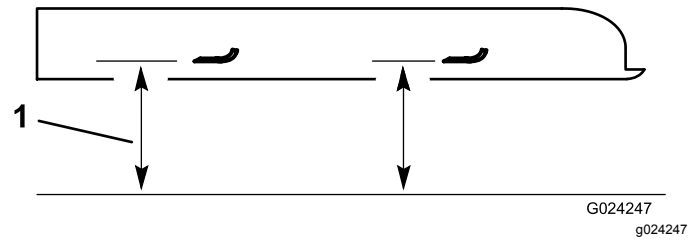

Figure 50
4. Measure from a level surface to the cutting edge, position A, of the blades (Figure 50).